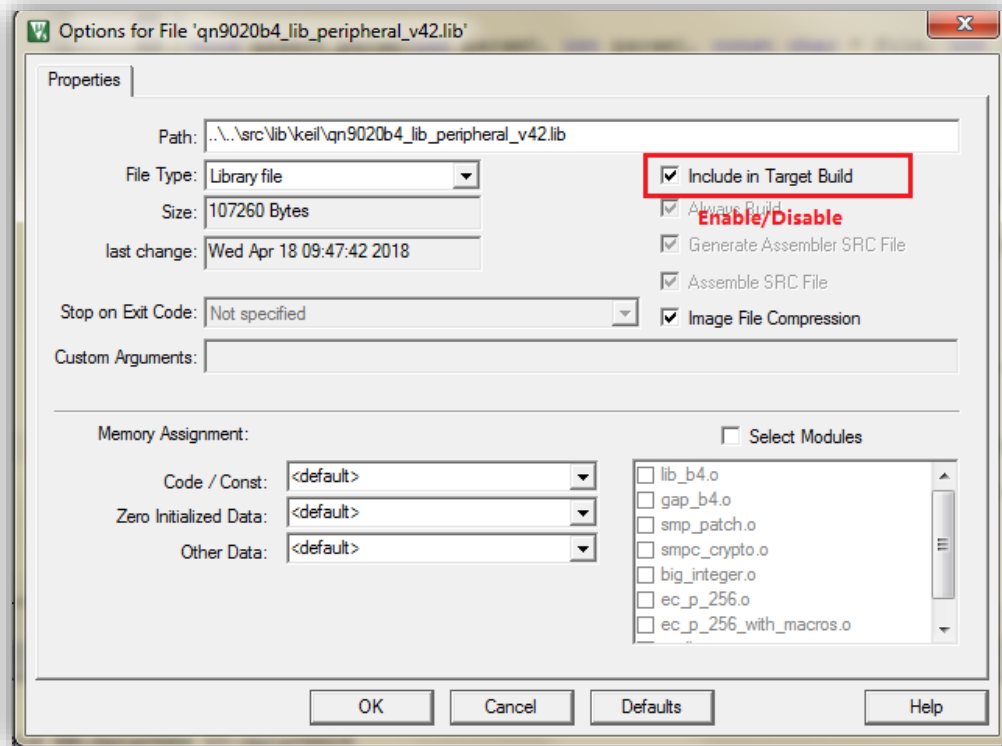

Figure 3. Enable/Disable library
- Step2: Enable/Disable the library by clicking the check box referring as in Figure 3.